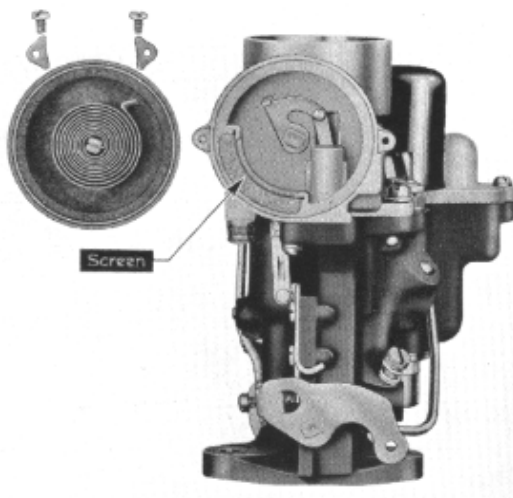

Figure 7
1. Remove both cover attaching screws and housing retainers, to remove thermostatic coil and housing assembly. Fig. 7.
2. Remove strainer screen. Fig. 7.